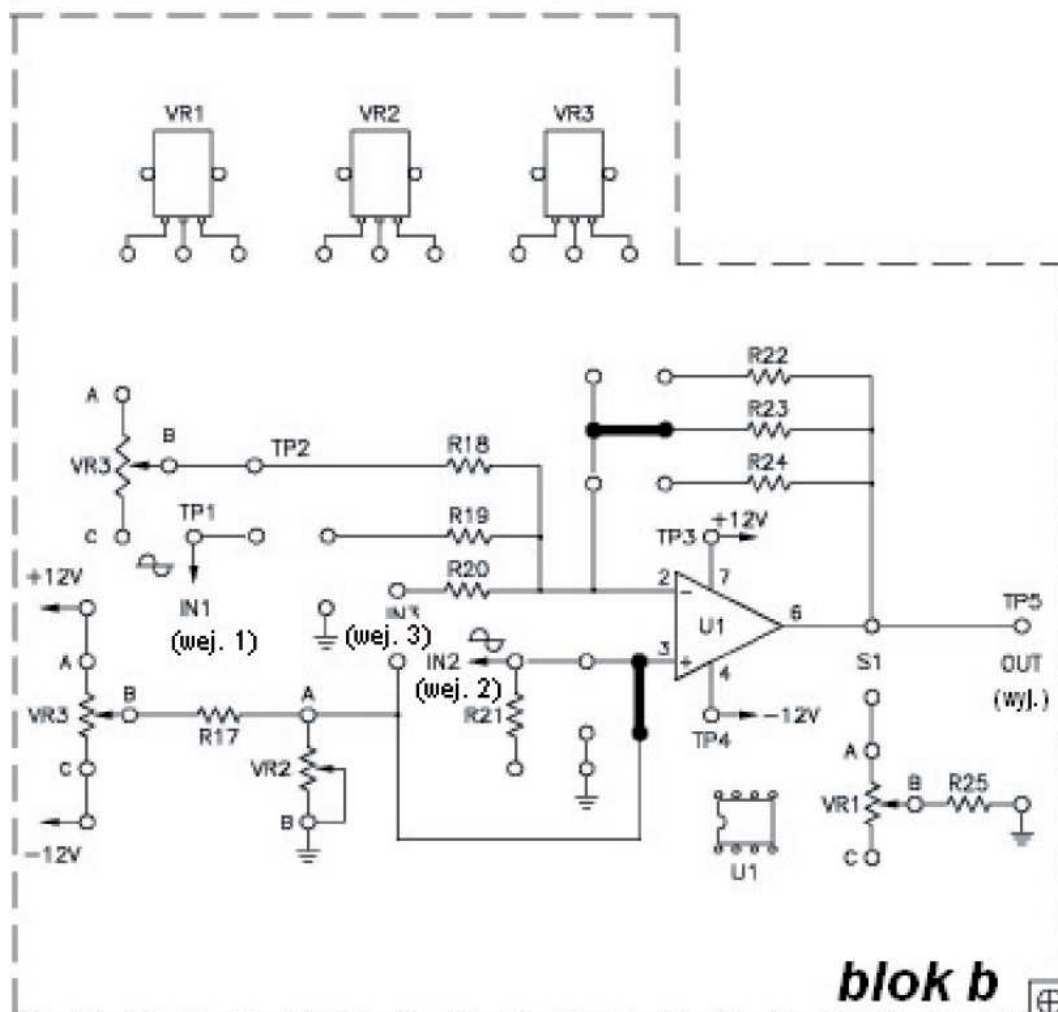

Fig. 3: Electrical assembly schematic (KL-25006 part b)
1. Make the connections according to the assembly schematic fig. 3. The circuit should be powered with + 12 V_{DC} and – 12 V_{DC}.